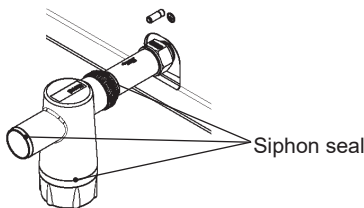

Fig. 57
18. Clean and check the siphon (Fig. 57):
21. Fill the siphon (Fig. 57) and neutralisation unit, if present, with water through the cleaning opening.